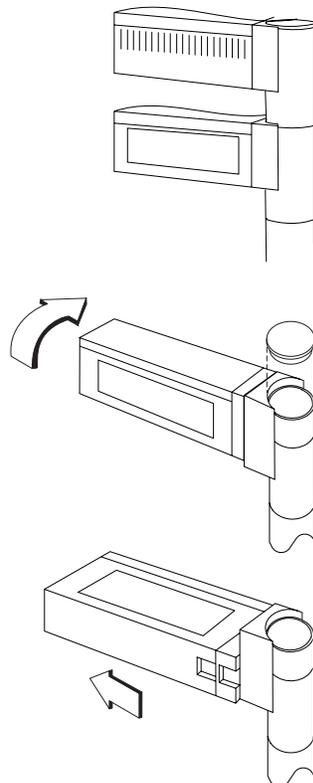

Figure 25. Disassembling the display
2. Remove the post cap from the top of the post, and rotate the display away from you to a horizontal position (see the center section in Figure 25).